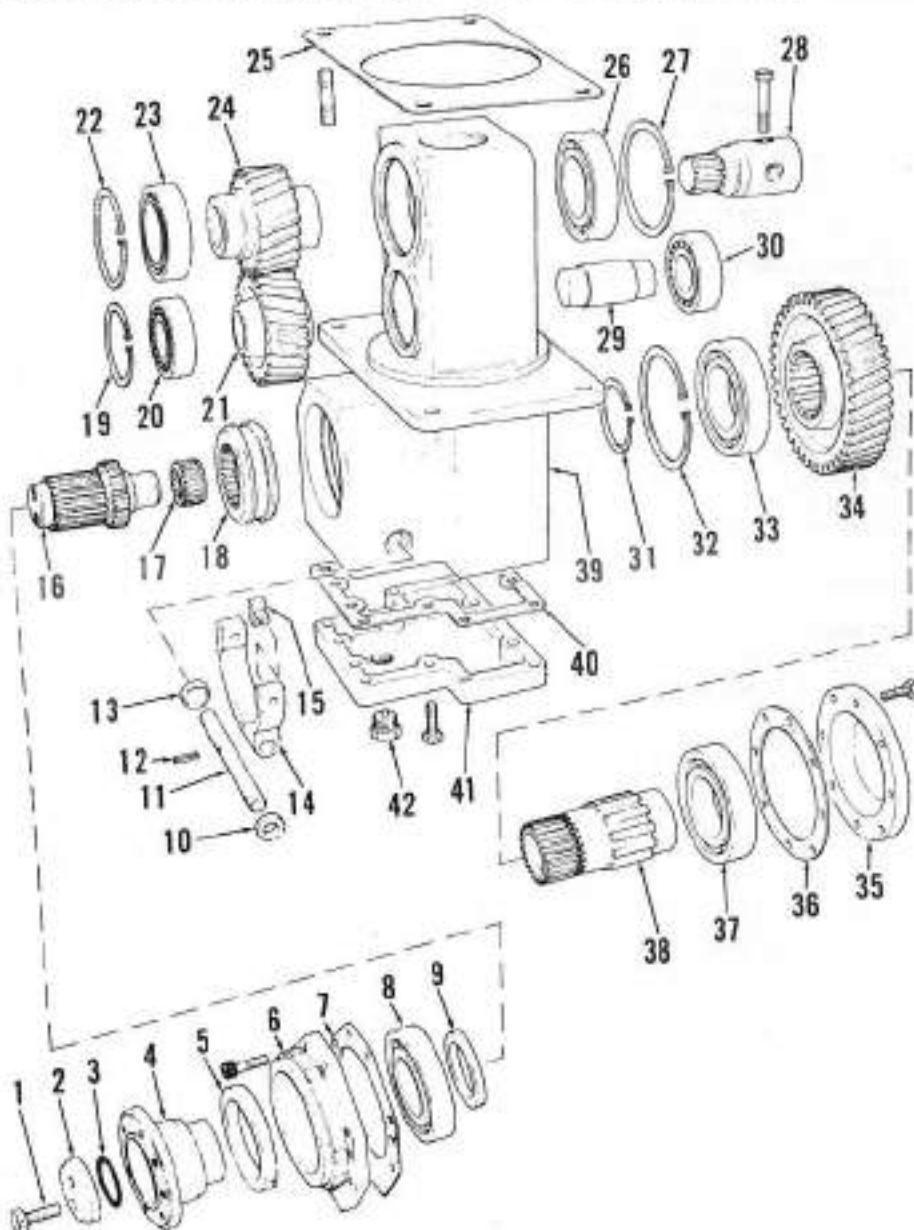

Fig. 15—Exploded view of transfer gearbox showing component parts and their relative positions. Also see Fig. 16.
then remove bolt from coupling (28-Fig. 15) and slide coupling rearward on transmission pinion shaft until it clears transfer gearbox housing. Disconnect drive shaft from driving flange (4) and place a jack under transfer gearbox. Remove cap screws retaining transfer gearbox to tractor main frame and lower assembly from tractor.
**NOTE:** Save the laminated gasket (25) for use during reinstallation. If a new gasket is used, the thickness will have to be adjusted to provide correct alignment of coupling (28) and drive gear (24).